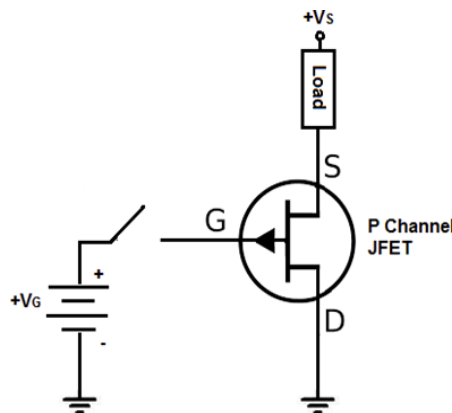

Figure 9: Circuit for plotting the I_{DS} vs V_{GS} that is, transfer characteristics of p-channel JFET (J176)
1. Measure the actual value of the drain resistor (as the load of Fig. 9).
3. Connect the circuit and connect the milliammeter as shown in Fig. 9.